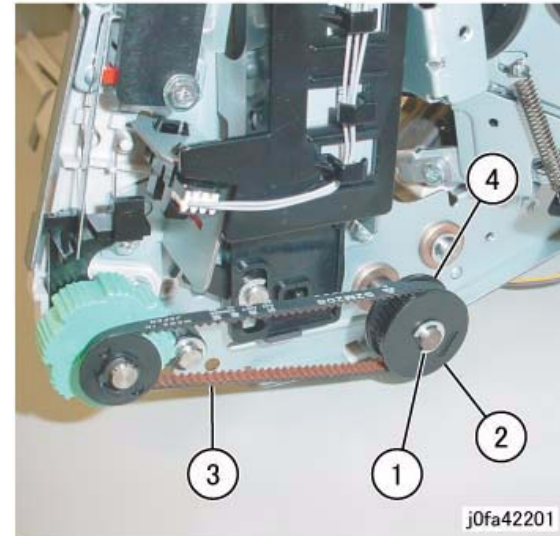

Figure 1 Removing the Pulley (j0fa42201)
3. Remove the front Pulley. (Figure 1)